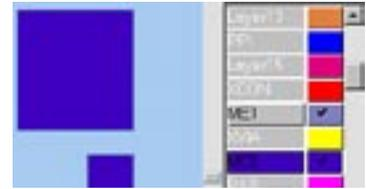

Figure 4. Objects copied to layer ME2.
- Select from menu: Select>>Save Selected>>To Layer. This command copies the selected object into the active layer. You will see that the color strip of layer ME2 at the Layer bar will become checked (see Figure 4), indicating that now this layer contains objects. Moreover, you will see that the selected boxes change their color (because the active layer overpaints all the remaining layers on the screen).